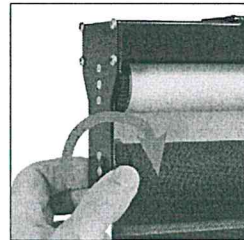

Fig. 8
- To make an adjustment, turn the dial clockwise (left end view) to increase speed. (Fig. 8)